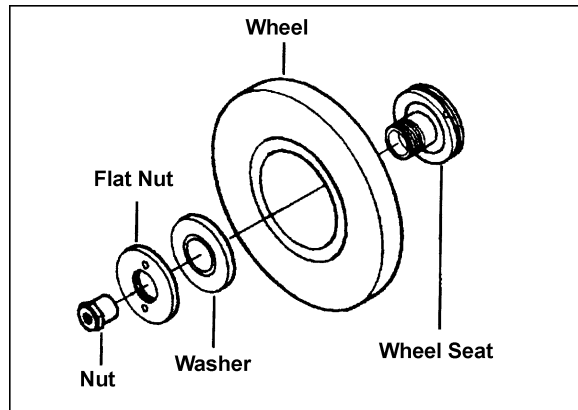

Figure 8
4. Place a grinding wheel onto the shaft of the grinding wheel seat (Figure 8).